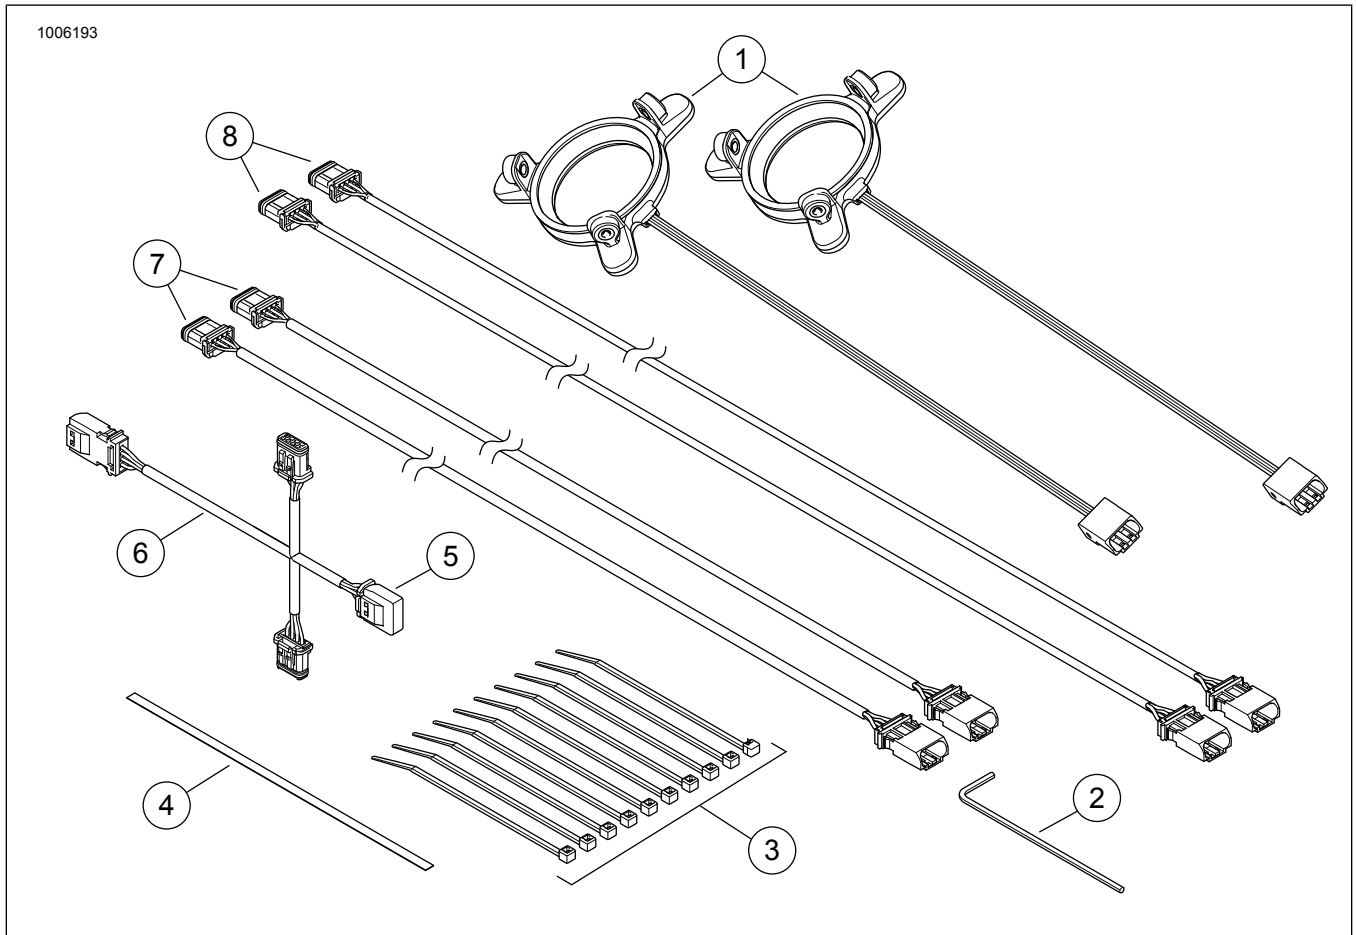

Figure 28. Service Parts, Stage II Round Speaker R/G/B/ LED Light Kits
See Figure 28. and Table 1. Slide the grommet about 6 in (15 cm) from the male end of the harness (10).
See Figure 28. and Table 1. Connect and route 48-in. harness (12) from LED R/G/B controller toward the body speakers. Connect 3-way harness (8) to speaker connections.